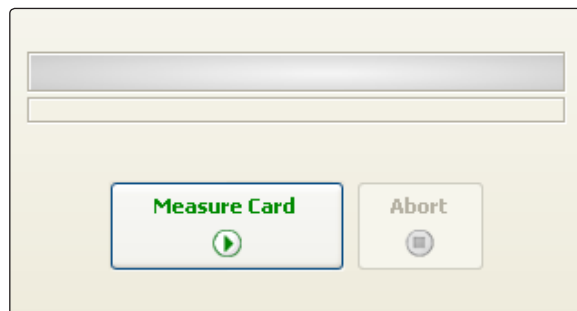

Figure 13. Measure sample
2. Click on the Measure Card button (Figure 13). The sample measurement takes about a minute and the measurement progress is shown in the lower status bar.